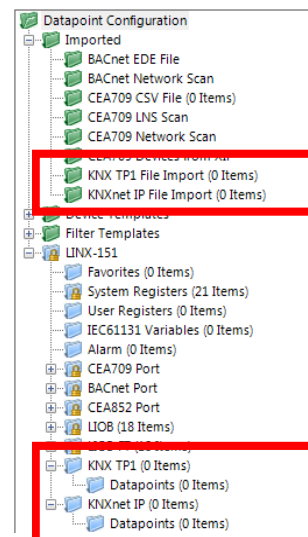

Figure 164: Data Point Manager Dialog with KNX import and device folders.
- The folder list (Figure 164),